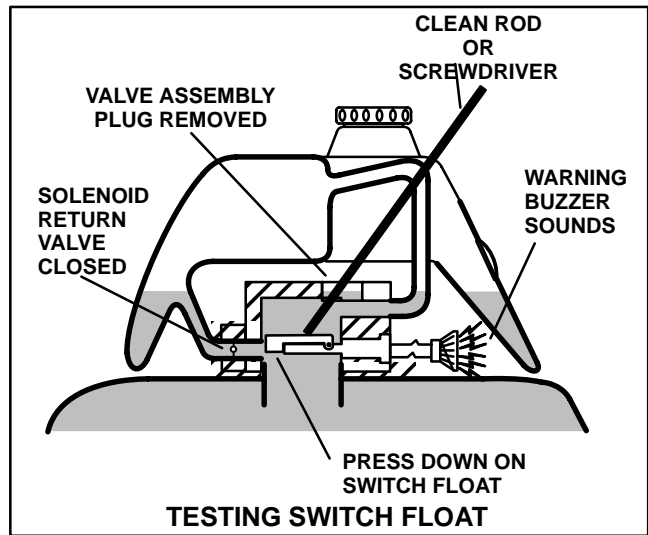

Figure 23
4. Insert clean rod or screw driver into valve assembly and gently push down on switch float (Fig. 23). Alarm should sound after one second delay.